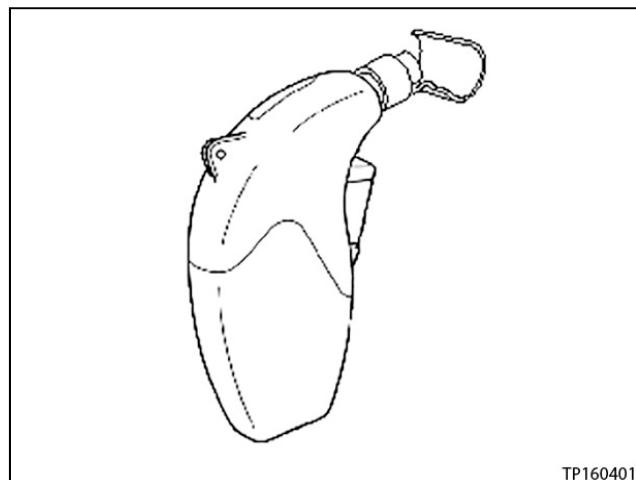
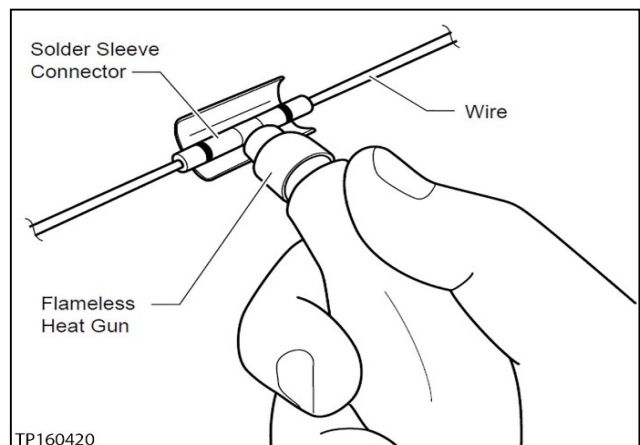

Figure 15
Figure 16
18. Install the solder sleeve connector by shrinking it to the wire with essential tool Flameless Heat Gun J-46538 or equivalent flameless heating tool (see Figure 15 and Figure 16).